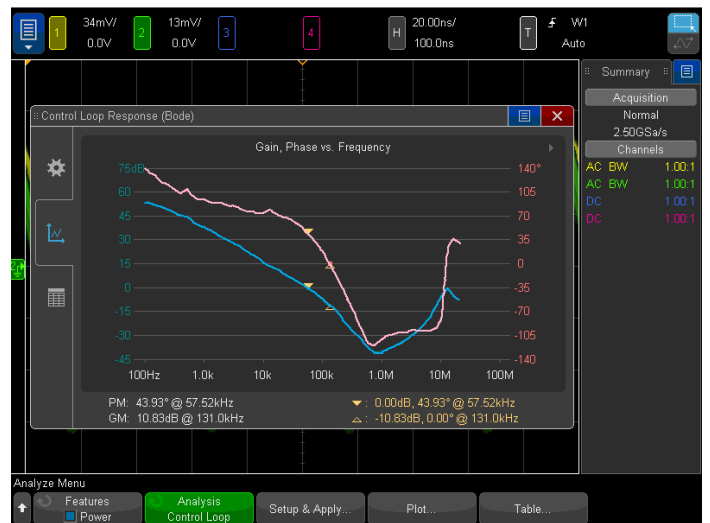

Figure 39. Gain and phase plot with automatic phase margin and gain margin measurements.
Figure 39 shows the gain plot in blue and phase plot in pink. At the completion of this test, the scope also automatically measures the phase margin (PM) and the gain margin (GM). These are indicators of the stability of the power supply.